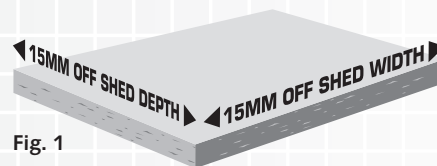

Fig. 1
Step 3 - Lay boxing to the required size. The raised slab size should be 15mm smaller than the overall base size of the shed and at least 30mm above the ground line. See Fig. 1 and Raised Slab Specification table for correct measurement.